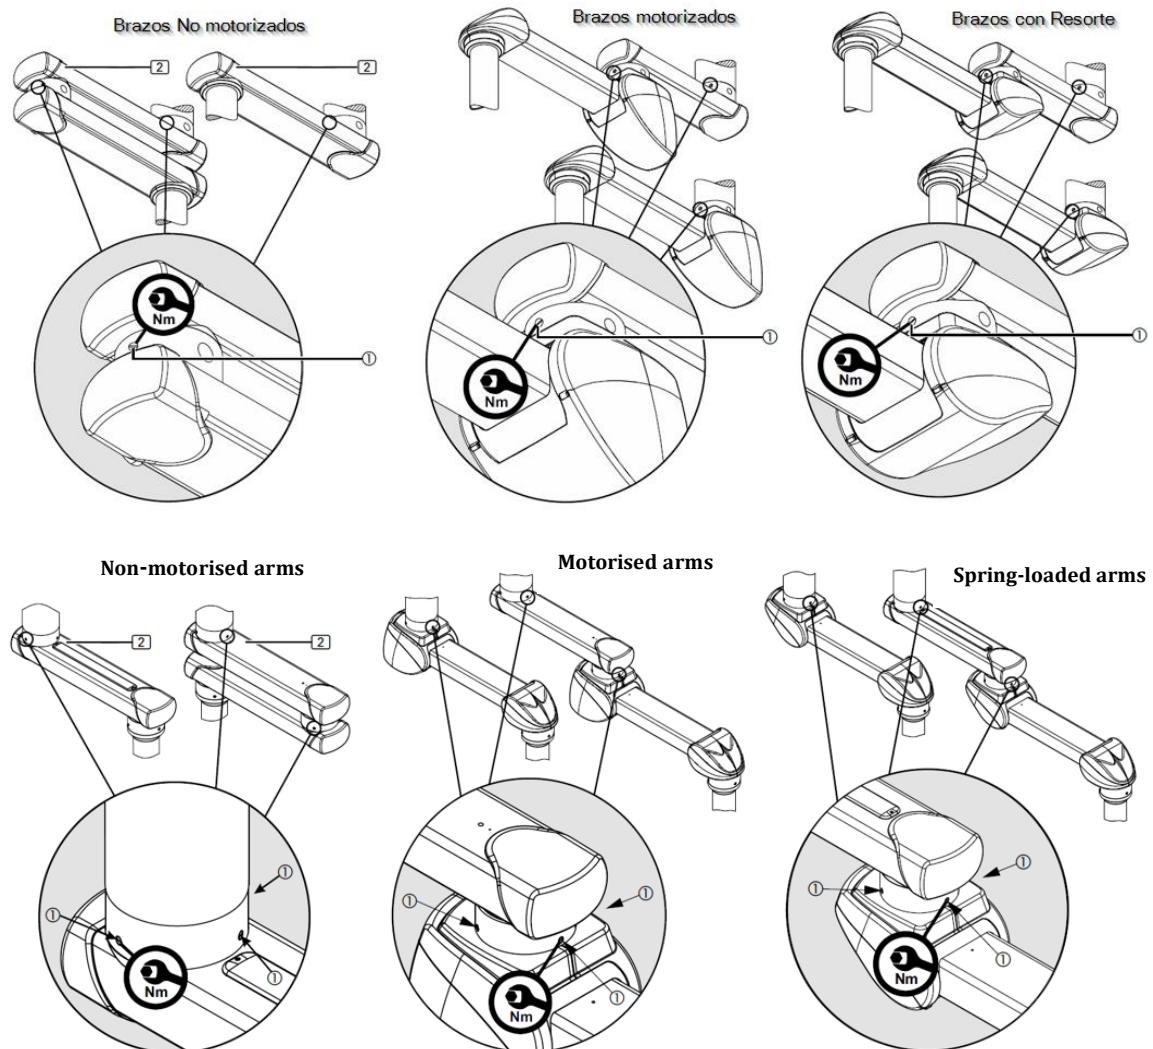

Fig.40 Friction brake adjustment
When adjusting the end stop as illustrated in Figure 40, the dead centre area is  $45^\circ$ . This means that the spring arm (3) has a maximum range of movement of approx.  $315^\circ$ . If the minimum setting on the end stop is not defined while adjusting the brakes on the intermediate bearing (11) and the ceiling bearing (10), it is quite difficult to bend the suspension system from the stretched position (12) and turn it on the intermediate bearing (11) of the spring arm (3).